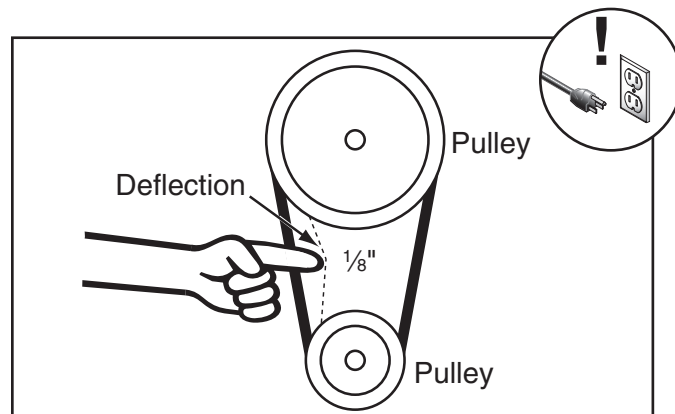

Figure 140. Correct V-belt deflection.
5. Tension V-belts until there is approximately $\frac{1}{8}$ " deflection when pushed with moderate pressure, as shown in **Figure 140**.